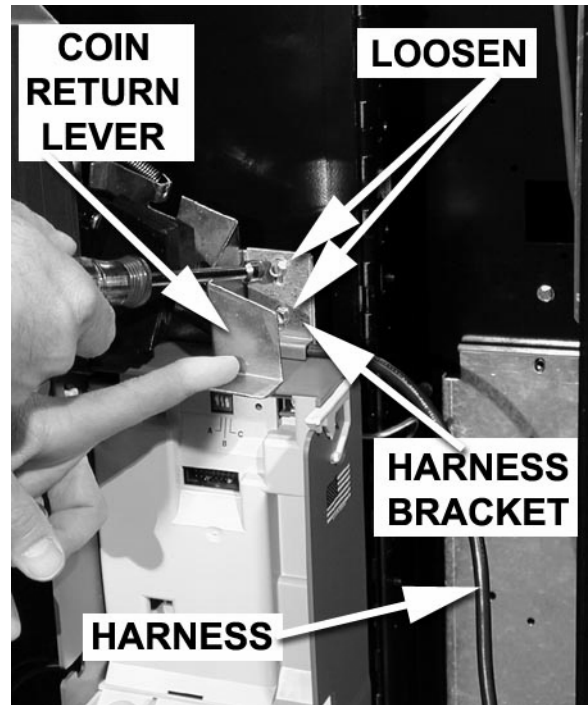

Figure 27
4. Loosen 2 hex-head slotted screws on mechanism. You will need to manipulate the coin return lever to gain access to the upper screw (figure 27).